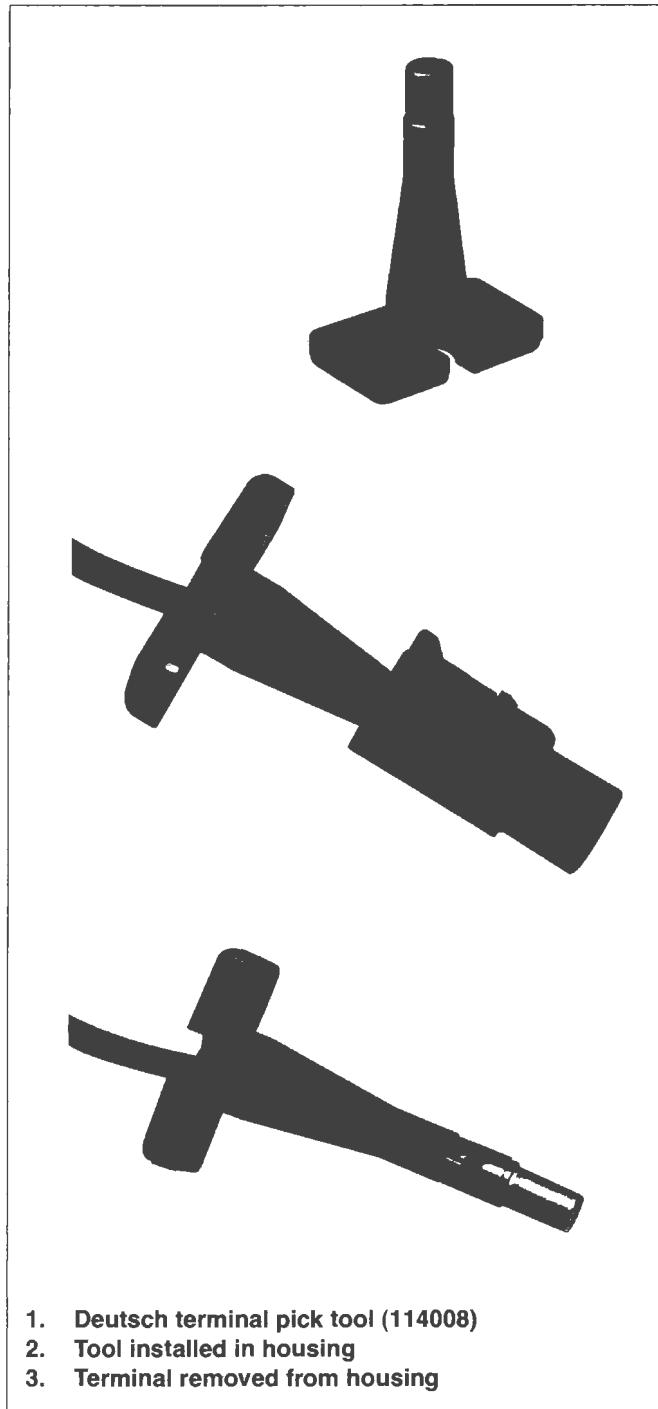

Figure B-12. Remove Socket/Pin Housing
2. See Figure B-12. Using terminal pick tool (Deutsch® 114008) (1), install tool onto voltage regulator cable so that the tapered end is in the wire end of the housing (2).
3. Push tool into wire end of housing until it bottoms. Gently tug on housing to pull from terminal (3).